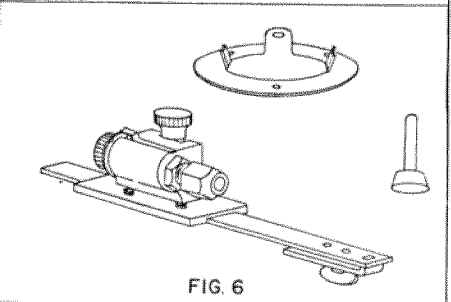

FIG. 6
**FIG. 6, CUTTER GRINDING ATTACHMENT, NO. 25159**—The Cutter Grinding Attachment for the router makes light work of keeping bits and cutters sharp and in good condition. **A Special grinding wheel** for use in the router chuck is included. The holding attachment has a full range of circular and angular adjustments so that you can accurately align any shape cutting edge with the grinding wheel surface. Once set up, the identical sharpening of all edges on a bit or cutter is assured.